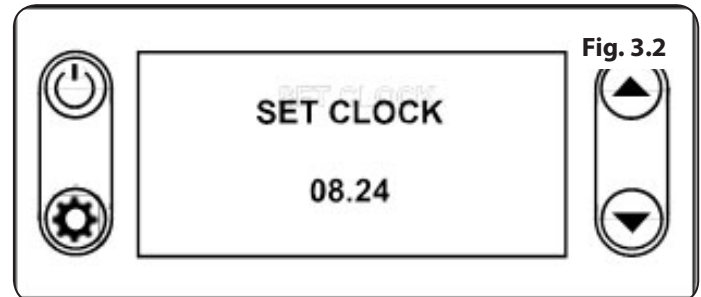

Fig. 3.2
2. Press 'MENU' to enter the SET CLOCK menu. The time will be displayed and the hour values will be flashing (**Fig. 3.2**).